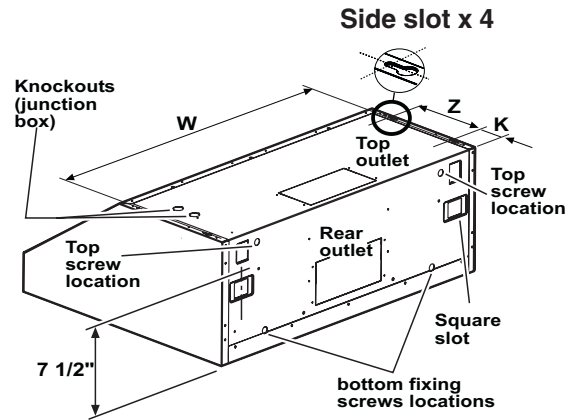

Figure 6a
- After the hood installation height has been determined draw a horizontal line at a distance above the cooktop equal to the desired hood installation height plus 7- 1/ 2". See also Figure 6a.